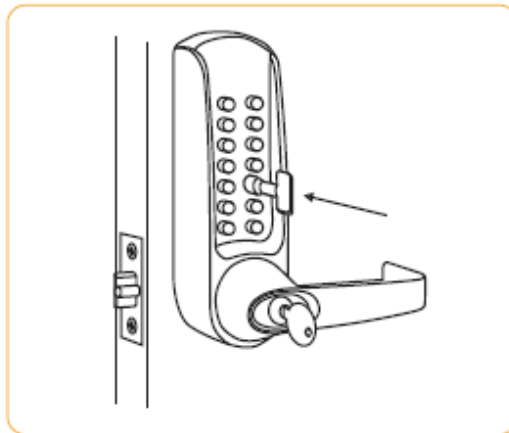

Fig 2
5. To select a button as a code button, push code tool over button. Press in button with tool approx 2mm (3/32") and turn clockwise 180°. Fig 2.